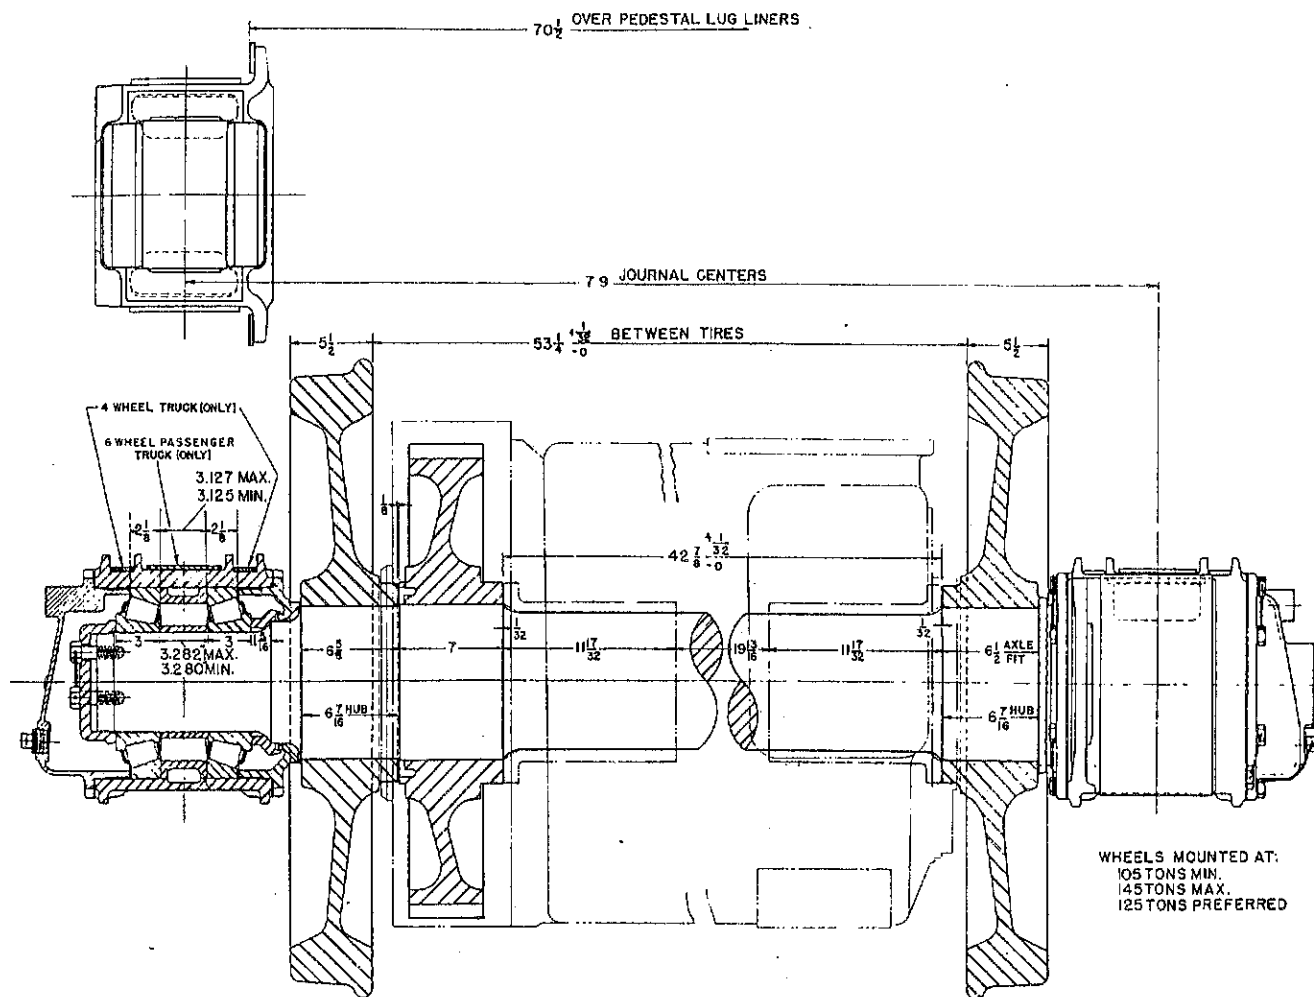

Fig. 3 - WHEEL, AXLE AND BOX ASSEMBLY
4. For wheel mounting refer to Fig. 3.